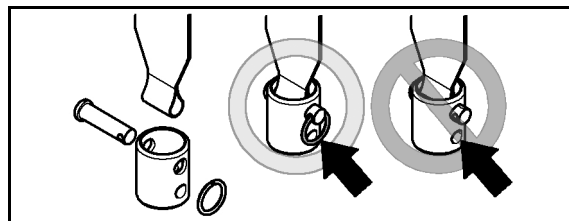

Fig. 7
- 2) Move the ceiling lift directly over the patient. With the four-function model, use the left and right buttons on the handset (see Fig. 7). With the two-function model, simply hold the ceiling lift’s spreader bar and drag it along the track.
Also make sure that the spreader bar is correctly attached to the ceiling lift. See Fig. 7 below.